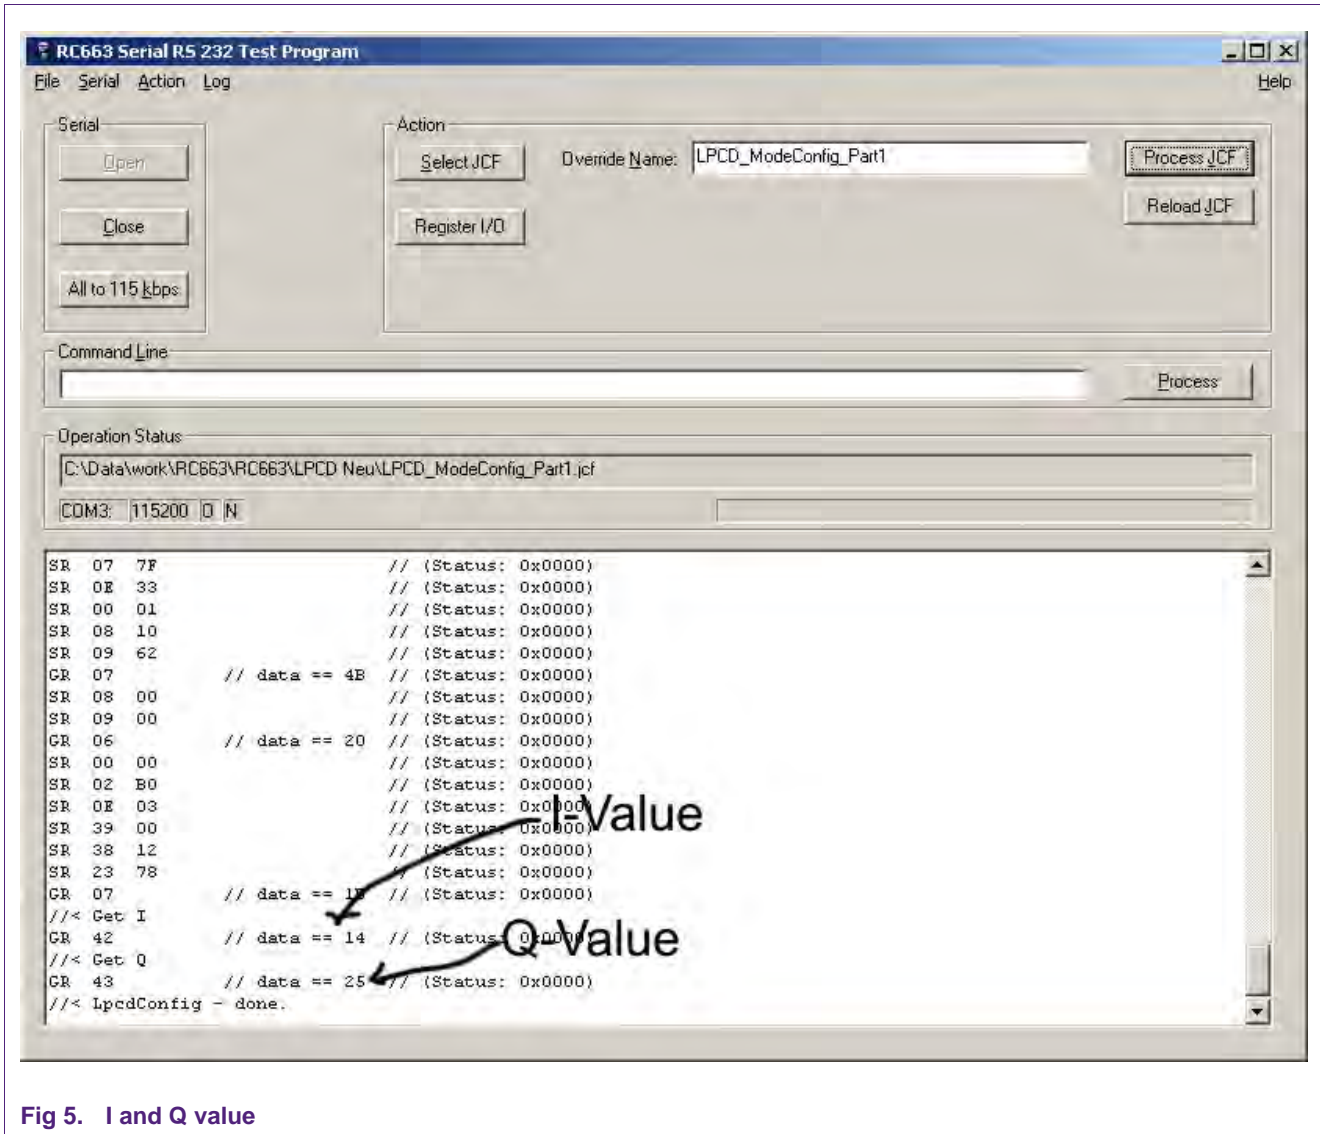

Fig 5. I and Q value
- Note the I and Q values. See Fig 5 for more details.